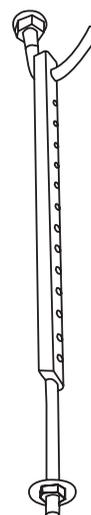

Fig. 4.4
3. Install the four suspension bolts (See Fig. 4.4).